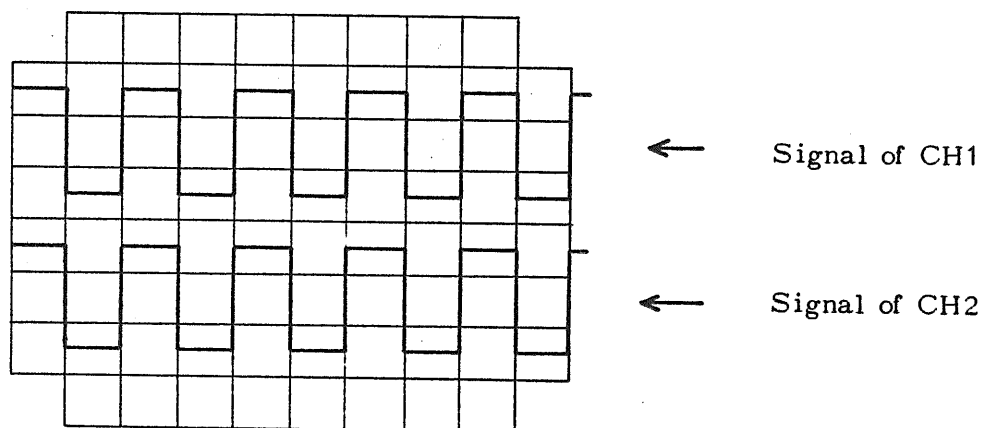

Fig. 6
Now, apply the calibration voltage to CH2 input terminal (21) also through the probe supplied as accessory, and set the GND button (23) in the position. Two waveforms are displayed by adjusting POSITION controls (8) and (13) as shown in Fig. 6.